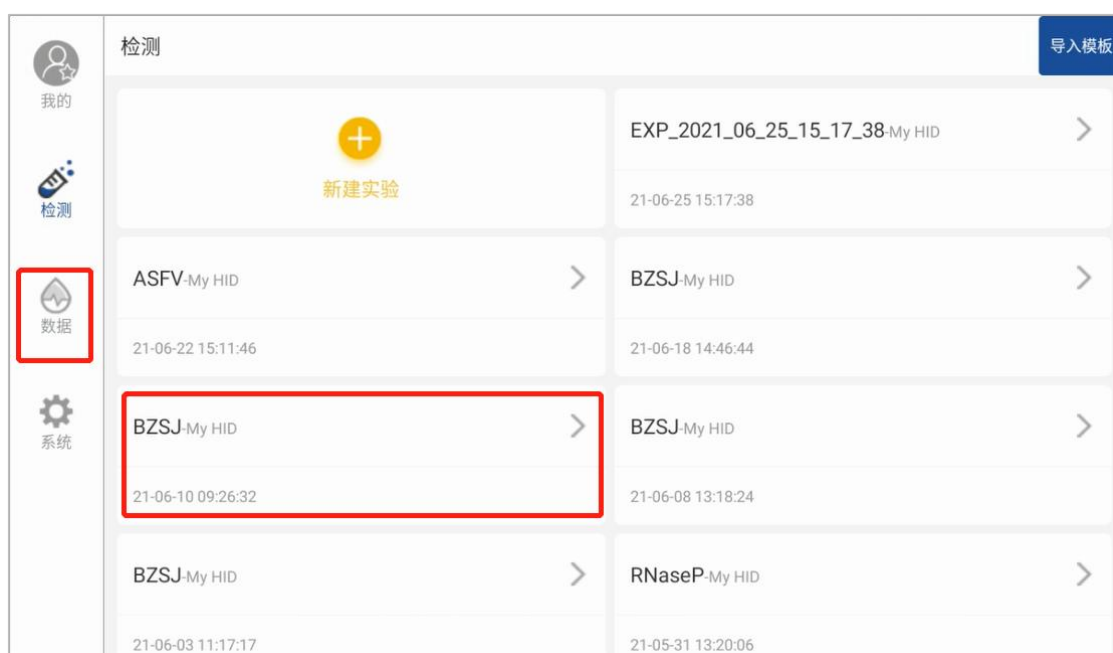

Figure 4.5-1 Data list page
- 1) Click the "Results" button on the main page to enter the "Data List" page, as shown in Figure 4.5-1.